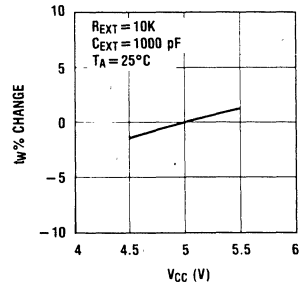
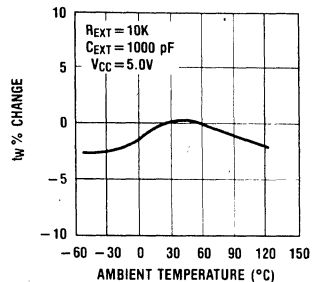

FIGURE 5
FIGURE 6
8. Output pulse width variation versus V_{CC} and temperatures: Figure 5 depicts the relationship between pulse width variation versus V_{CC} , and Figure 6 depicts pulse width variation versus temperatures.